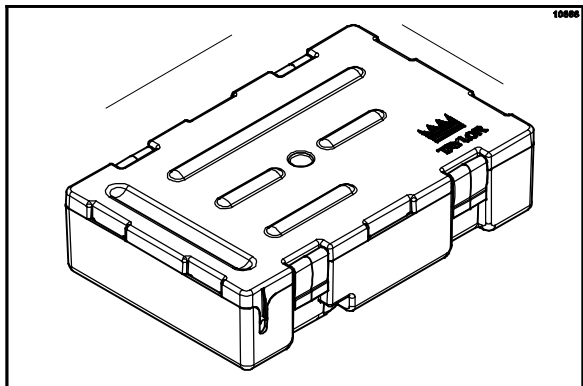

Figure 17
2. Lay the concentrate container on a flat surface. (See Figure 17.)